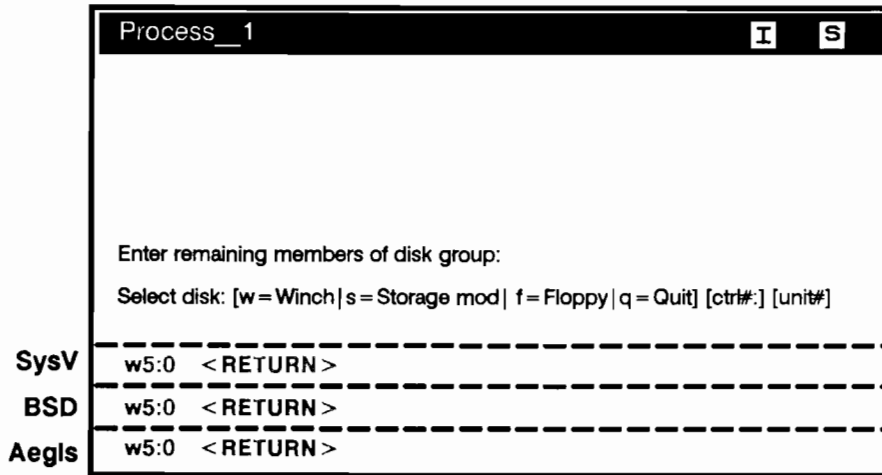

Figure 3-41. *invol* Prompt for Additional Drive Identities
8. Finally, **invol** prompts for the identity of additional disk drives in the set as shown in Figure 3-41.